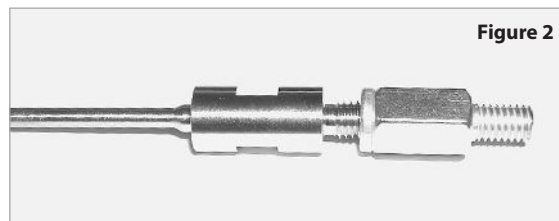

Figure 2
7. Thread the EZ No-Vent connector onto the GC-MS interface. **Tighten finger tight; then tighten an additional $\frac{1}{4}$ turn** (Figure 2).